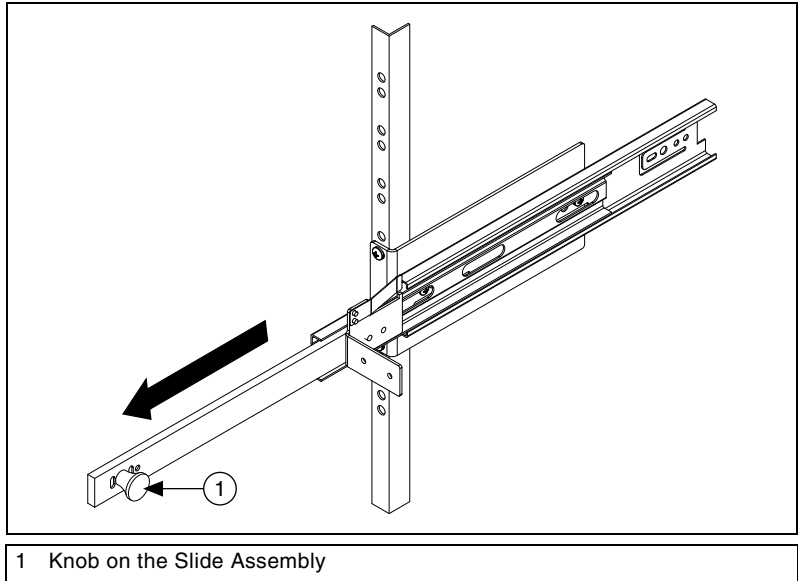

Figure 3. Locking a Slide Assembly
2. Use the knobs on the slide assemblies to pull the slides forward until they lock, as shown in Figure 3.